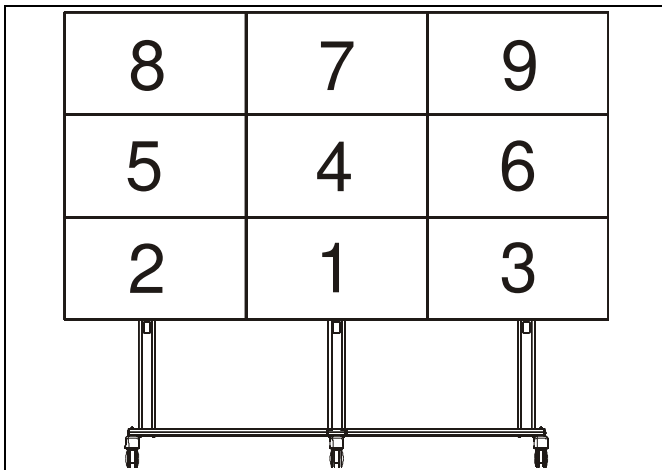
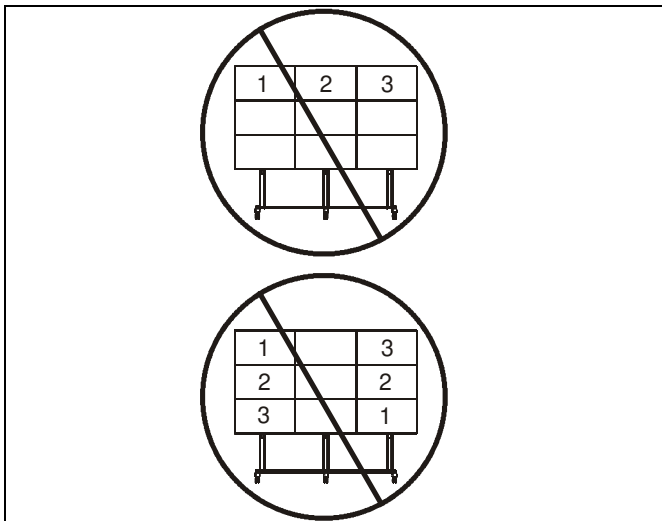

Figure 17
Figure 18
6. Starting from the bottom and working up, hang interface brackets (AA and BB) to display rails (K or L and KK). (See Figure 17)
WARNING: Improper display installation to the cart can result in serious personal injury or damage to equipment! Install displays from the bottom to the top to decrease the risk of tipping the mount during installation. Do not mount all of the displays on one side prior to installing the displays evenly in each row. On the LVM3X3, mount the center displays in each row prior to installing the outside displays. See Figure 17 for an ideal mounting order for the LVM3X3. See Figure 18 for unacceptable and risky installation mounting orders.